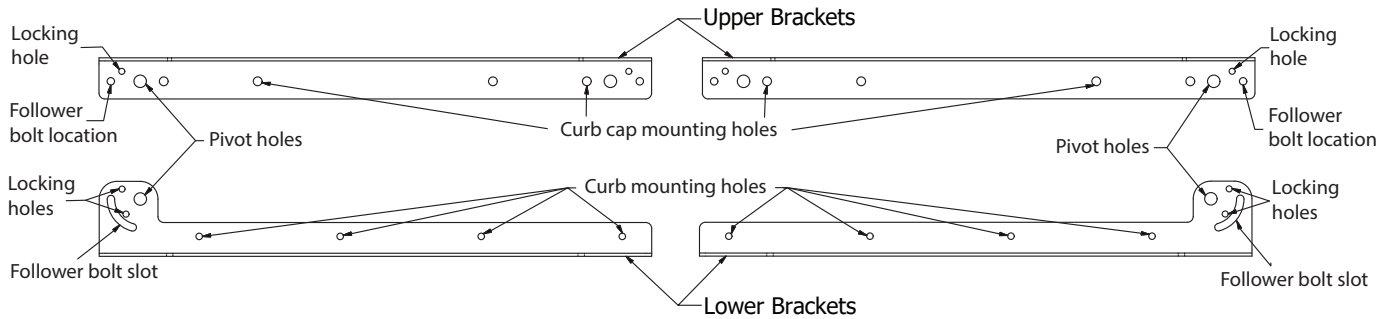

Figure 1
1. If fan was ordered as Factory Mounted, skip to step 3, otherwise locate two upper brackets and two lower brackets. See Figure 1.